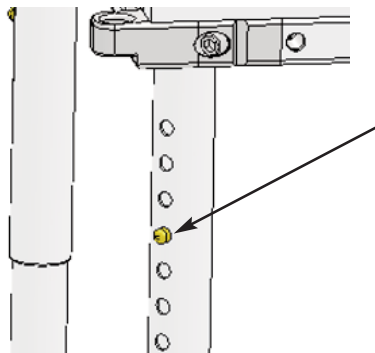

Figure 17
**A Leg Height Adjustment:** When making height adjustments to any of the legs, make sure that the brass buttons are fully engaged into the outer legs. If pushed too hard the button could become stuck inside the inner leg (Contact Nuprodx, Inc. if this occurs). Leg height adjustment should only be made before transferring the user into the chair (Refer to Figure 17).